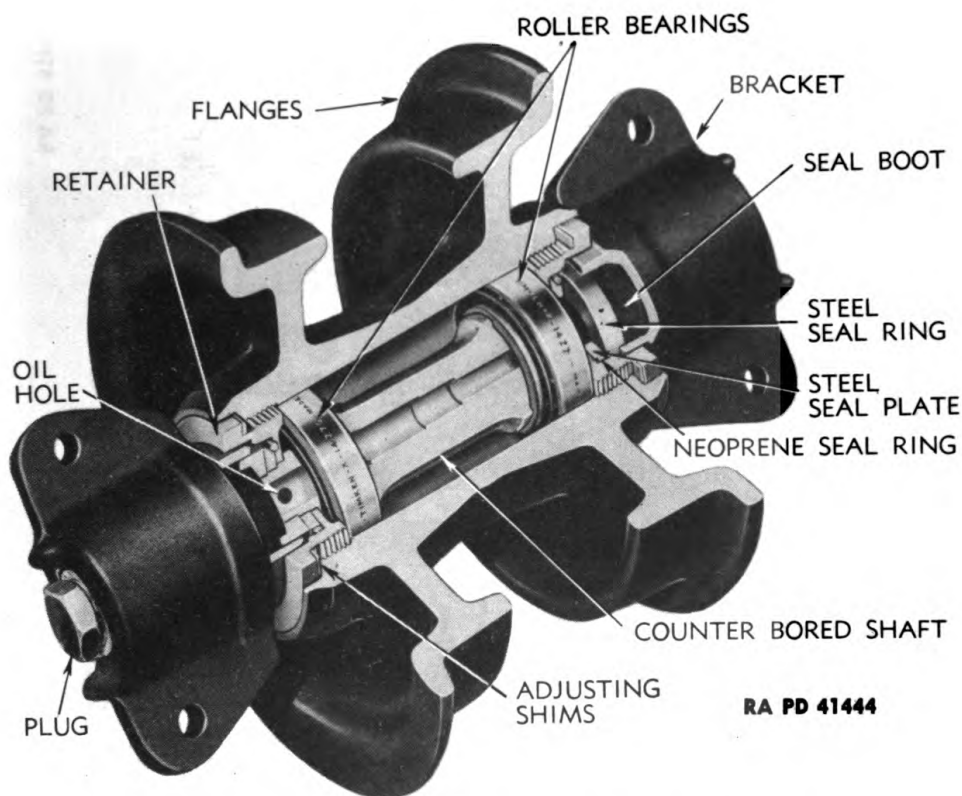

Figure 217 — Cutaway Truck Wheel Assembly
83. DISASSEMBLY OF FRONT IDLER OR TRUCK WHEEL ASSEMBLIES (fig. 217).
b. Procedure. NOTE: Because of the positive type oil seals and bearings used in the positive seal front idlers, truck wheels, and track support rollers, they must be carefully and correctly disassembled and assembled when repairs are made. All repair work must be done in a clean place where all parts of these assemblies can be kept absolutely clean during assembly. Figure 217 shows a positive seal truck wheel cut away to show the relation of parts. The front idler, except for the difference in size and shape of wheel and brackets, is